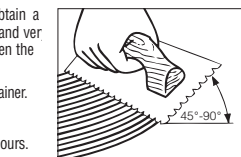

Figure 9
- Hold trowel at a minimum 45° angle (Figure 9) firmly against the subfloor to obtain a 40–60 ft.² (4.5–5 m²) per gallon spread rate. The trowel will leave ridges of adhesive and very little adhesive between the ridges. This will allow you to still see the chalk lines between the ridges and provide the recommended spread rate.